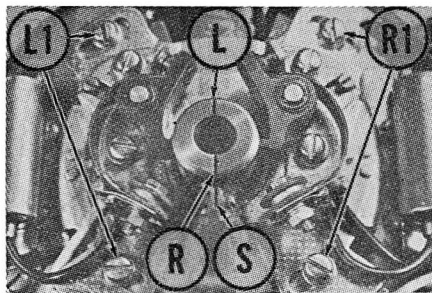

Fig. S4-4—View of timing marks for S32-2 model. Refer to text for adjustment procedure.
**MODEL S32-2.** Refer to Fig. S4-4. Ignition point gap should be 0.3-0.4 MM (0.012-0.016 in.). Timing does not advance and should occur at 25 degrees BTDC. Piston position is 2.1-2.85 MM (0.083-0.112 in.) BTDC. Timing mark (L) is painted red for left cylinder, mark (R) painted blue for right cylinder. Stator mark (S) can be moved, so timing should be checked with degree wheel or dial indicator whenever possible. Ignition timing is changed by moving breaker plate after loosening screws (L1) for left cylinder, (R1) for right cylinder.